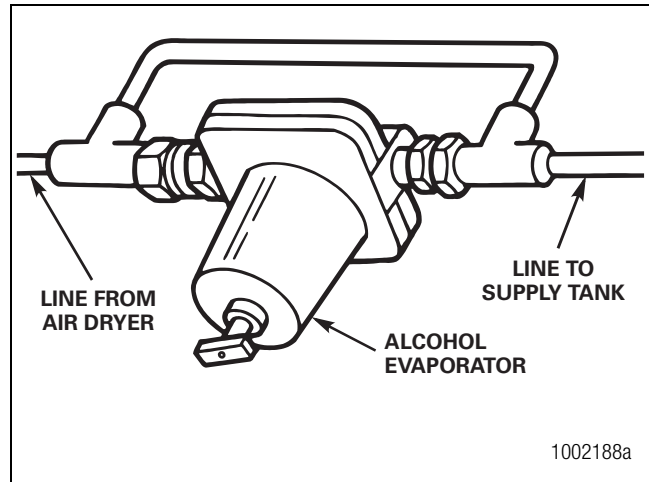

Figure 6.6
2. If an alcohol evaporator is installed in the air system, check for a bypass line connected to the evaporator. Figure 6.6.